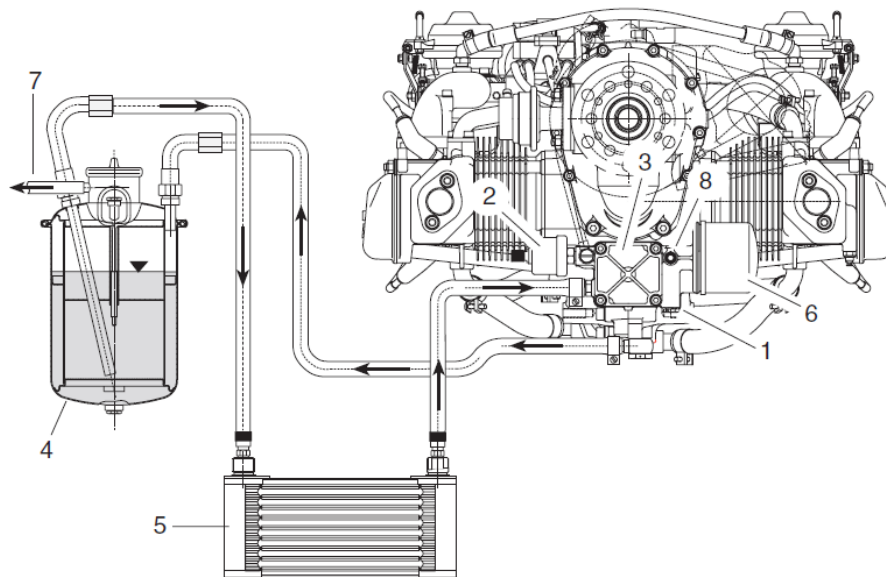

Figure 1.7.1. Engine Lubrication System.
The ROTAX 912 ULS2-01 engine is provided with a dry sump forced lubrication system (please refer to figure 1.7.1.) equipped with a main oil pump integrated pressure regulator (1) and oil pressure sensor (2).